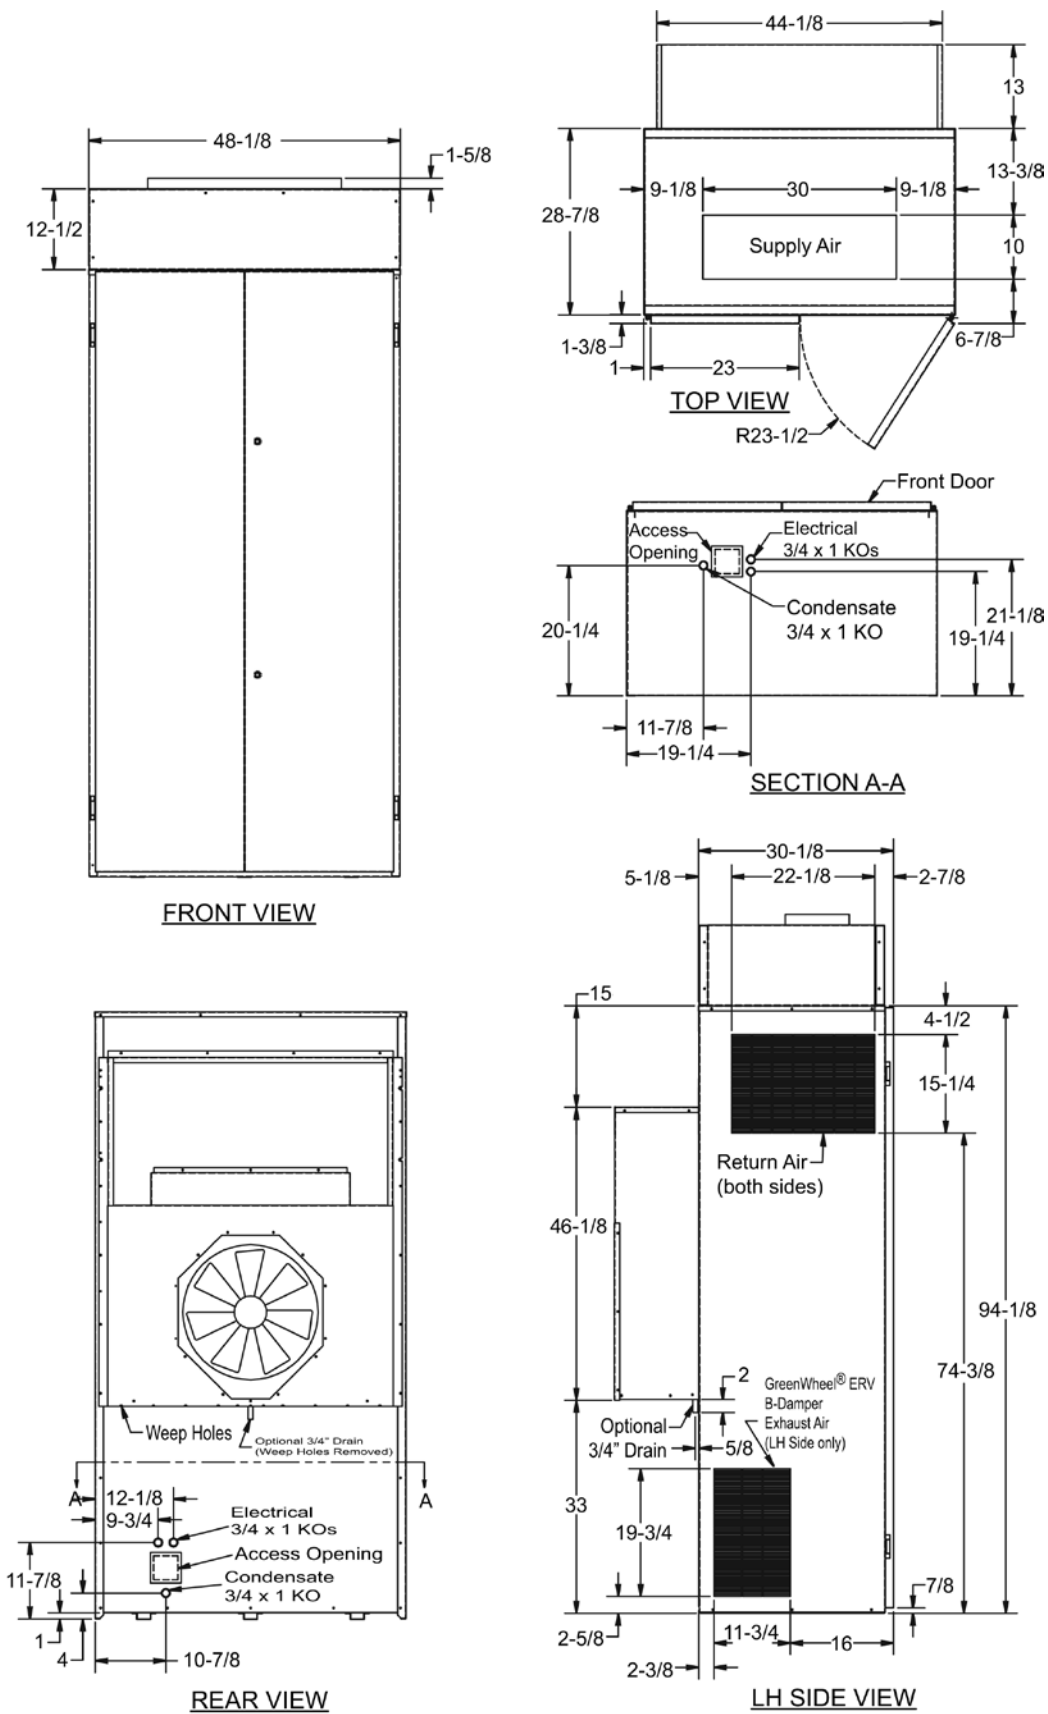

Figure 5. Scholar V Heat Pump and Air Conditioner Dimensional Data
To remove carpet from where the “footprint” of the unit will be when installed, carefully measure, cut and remove carpet from an area based on the dimensions of the Scholar V cabinet as described in Figure 5; and allowing for any offset or standoff from the finished interior surface of the wall.
A. Line voltage power supply must be sized to provide adequate power for the operation of the specific model heat pump and, if chosen, the electric heat option. Information on line power requirements, line sizing and fuse sizing is shown on data label on unit. The power leads can enter the heat pump or air conditioner either through the bottom or rear. The locations of the knockouts for power leads are shown in Figure 5. Depending on the location of the Scholar V heat pump or air conditioner relative to the outside wall, the exact rough-in location for power lines in the school room can be determined. Six feet of power line should be available inside the cabinet for routing and connecting the power lines, after the Scholar V unit is installed. If entry is from bottom, the stub-out should be no higher than 1/2" from the classroom floor to allow the unit to slide into the wall opening.
- A. The condensate drain line can be roughed in to drain the Scholar V heat pump or air conditioner from either the back (outside) or the bottom (floor). The locations for the condensate stub-outs can be determined from the cabinet knockouts identified in Figure 5. The factory installed condensate connection within the cabinet is a female PVC fitting designed for a 3/4" slip connection.
- M. Prior to sliding the Scholar V heat pump or air conditioner into the wall opening, check to be sure that the floor surface is hard, smooth and level (concrete, wood, vinyl tile or the equivalent). If the floor is carpeted, cut out an appropriate "footprint" based on the Figure 5 drawings and the location of the unit relative to the inside finished wall (flush or offset). Be sure the surface is level or provisions are made to level the unit upon installation.
- C. Condensate drain line hook-up will be from the vertically downward 3/4” female PVC slip fit port located just behind the breaker disconnect box in the lower right corner of the Scholar V heat pump or air conditioner. Reference Figure 5 for the location of the